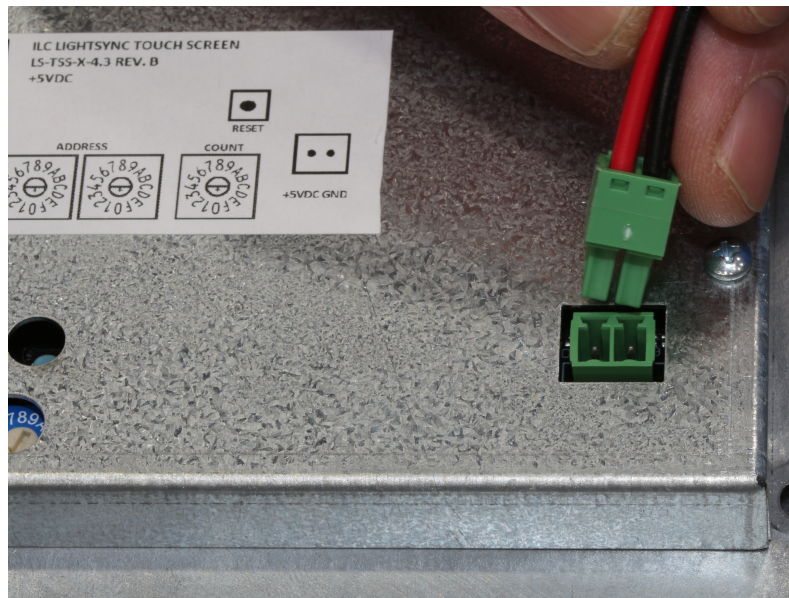

Figure 9 5VDC Power Connection
12. Connect the 5VDC power connector to the touch screen assembly as shown in figure 9